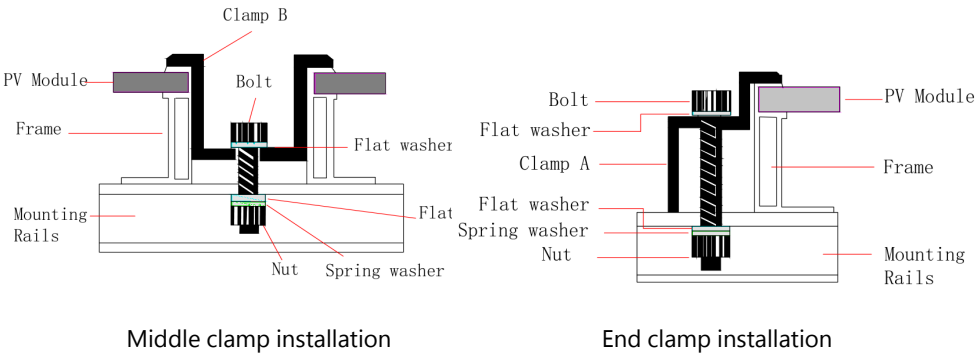

Figure 10: Installation of end and middle clamps of modules SPVxxx-R60DWMG / SPVxxx-R60DBMG
3. Secure each clamp by placing a flat washer under the bolt head and a flat and spring washer under the nut. (*Figure 10*).